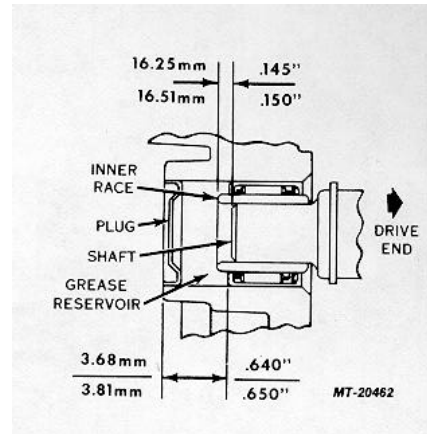

Fig. 21. Bearing Assembling Between Shaft And Housing
To replace the rectifier end frame bearing (type shown in Figure 21 only):
2. Assemble new inner race and bearing as shown in Figure 21. Assemble bearing seal toward drive end. Press against seal end of bearing to assemble into housing.